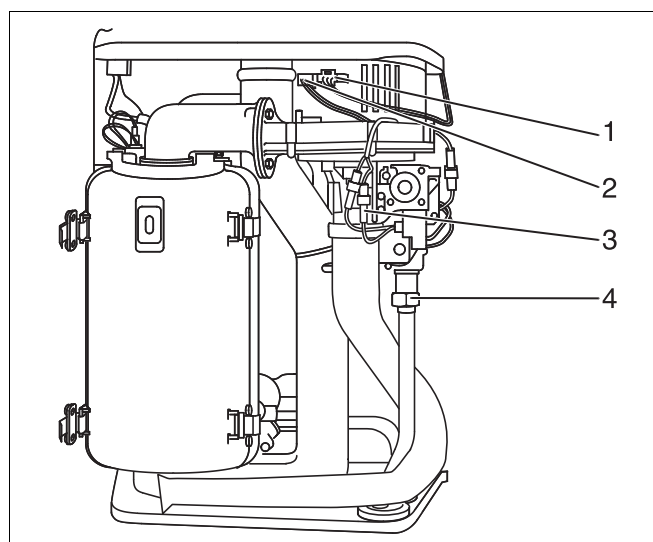

Fig. 90 Loosen the union nut and remove the cable
- Loosen union nut on gas valve assembly (fig. 90, item 4).
- Release plug-in connection of fan power lead (fig. 90, item 1), burner-control unit fan control lead (fig. 90, item 2) and gas-burner assembly (fig. 90, item 3).